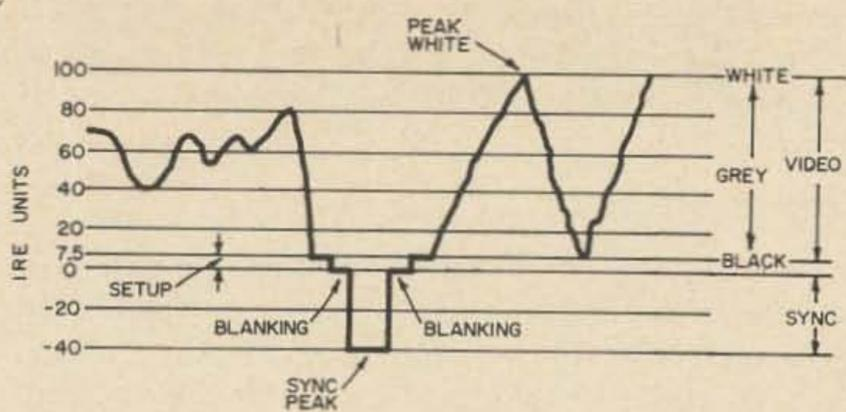

Fig. 1. Part of the standard TV signal. This drawing shows a horizontal sync pulse and video along with the standard IRE reference scale.
**Video:** That portion of the television signal containing the picture information. (Fig. 1).
ence to maintaining the output at one volt. Adjust the camera to obtain pictures as close as possible to Figs. 1, 2, and 3.